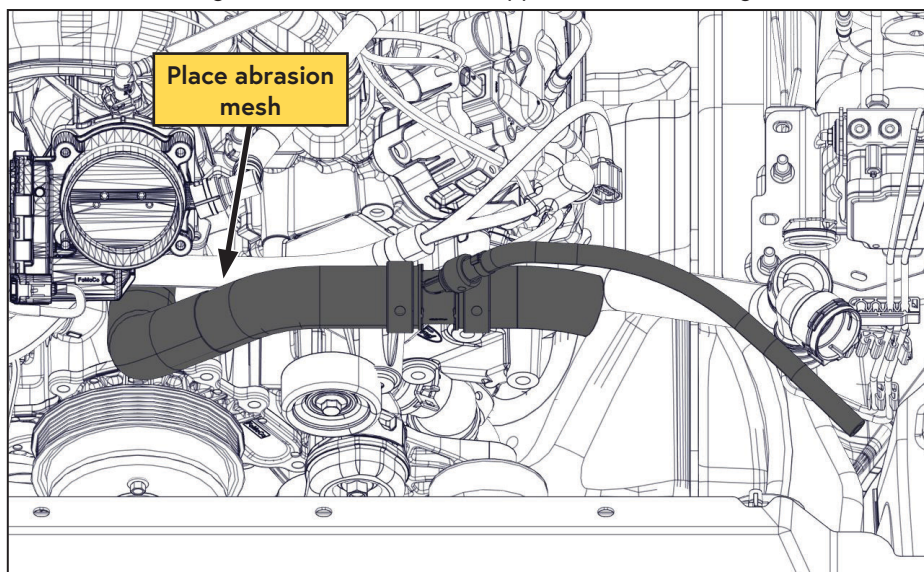

Figure 17 — Upper coolant hose modification
- ☐ Slide the supplied abrasion mesh up to the plastic cuff at the Tee and secure it in place using cable ties (or to the approximate location of the cuff) (Figure 17).
- ☐ Reinstall the engine side of the modified upper coolant hose (Figure 17).